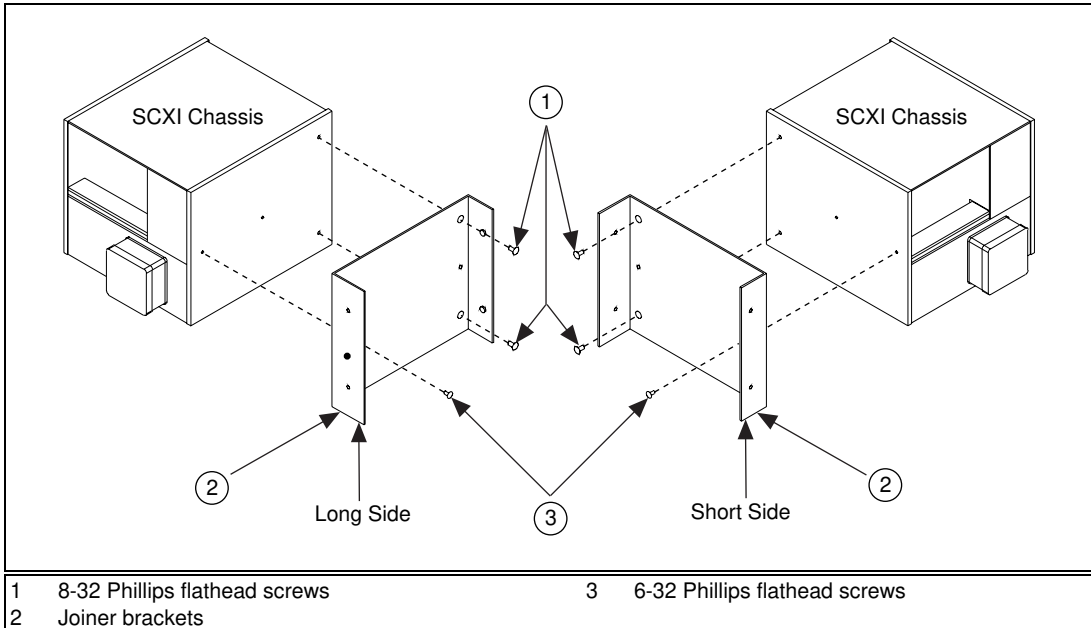
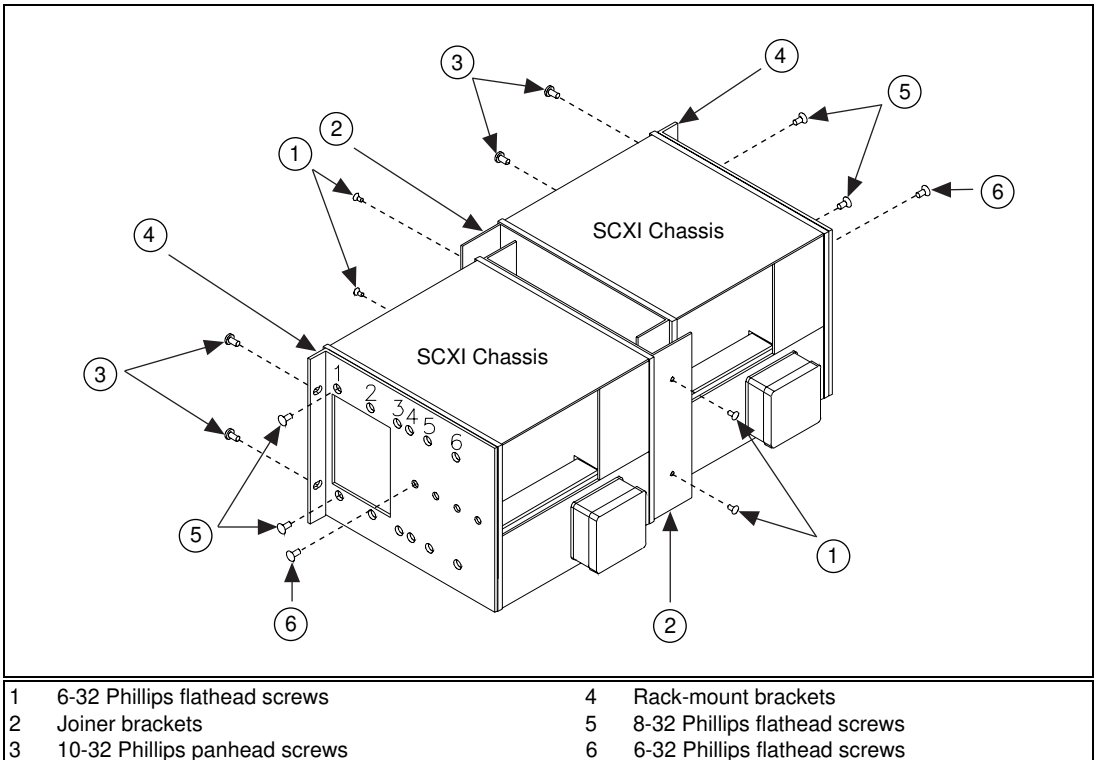

Figure 1. Attaching the Joiner Brackets to the SCXI Chassis
Figure 2. Rack-Mount Kit Installation
Refer to Figures 1 and 2 as you perform the following installation steps. The rack-mount brackets (item 4 in Figure 2) can be mounted in one of six positions to attain different depths. For detailed measurements of the
Refer to Figure 1 as you perform the following steps:
Refer to Figure 2 as you perform the following steps: